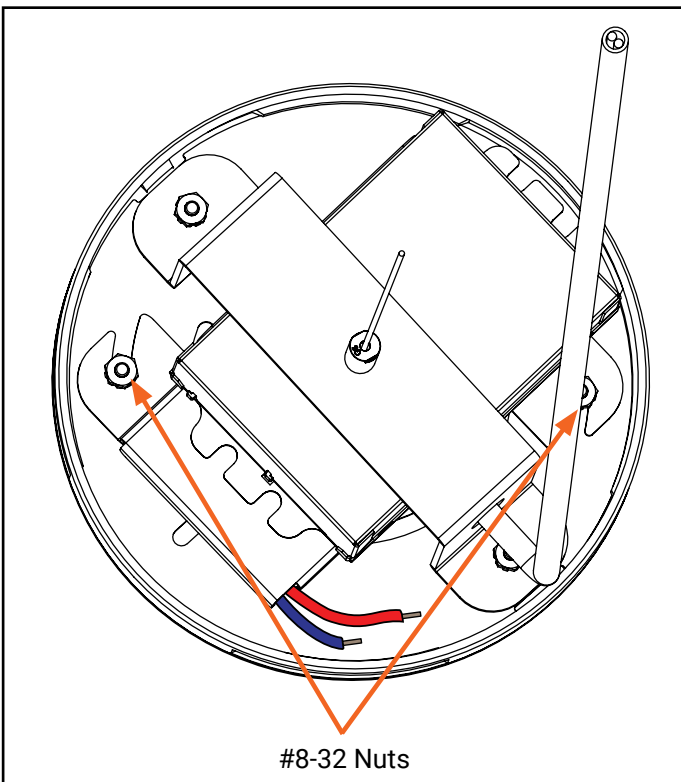

Figure 18
4. Loosen the two **#8-32 nuts (G)** from the **Canopy Plate (B)**. (Figure 18)